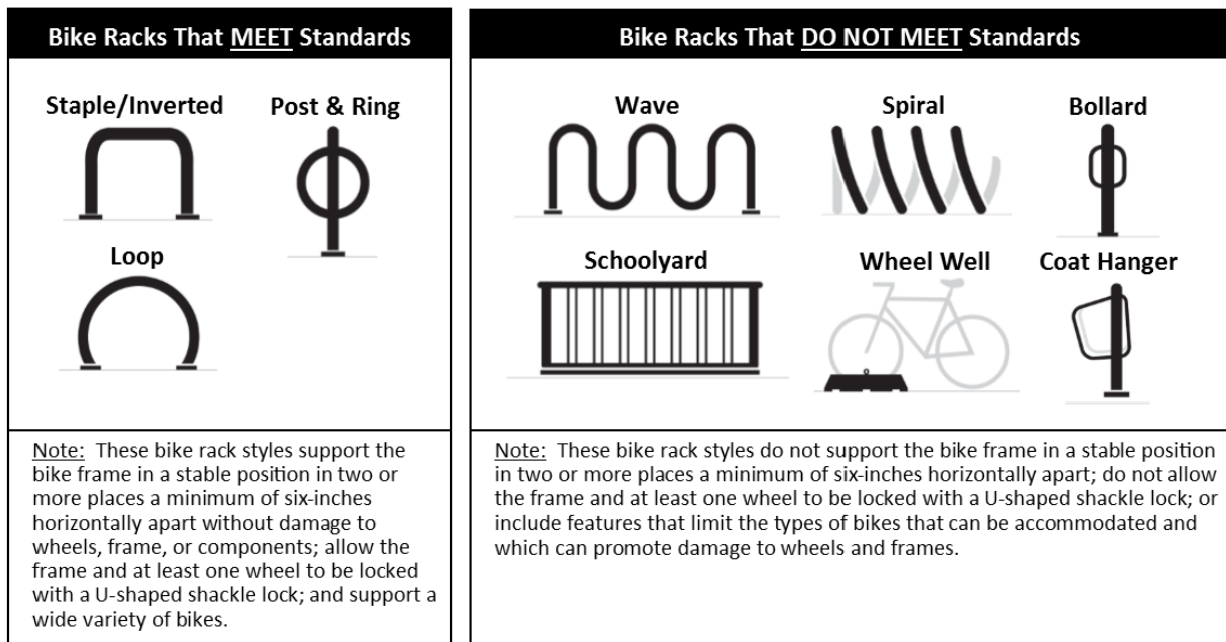

Figure 2
5. Examples of types of bicycle racks that do, and do not, meet these standards are shown in Figure 2. Decorative bicycle racks that enhance the sense of place and contribute to the character of the development are encouraged but are subject to approval by the Director of Development Services or designee.